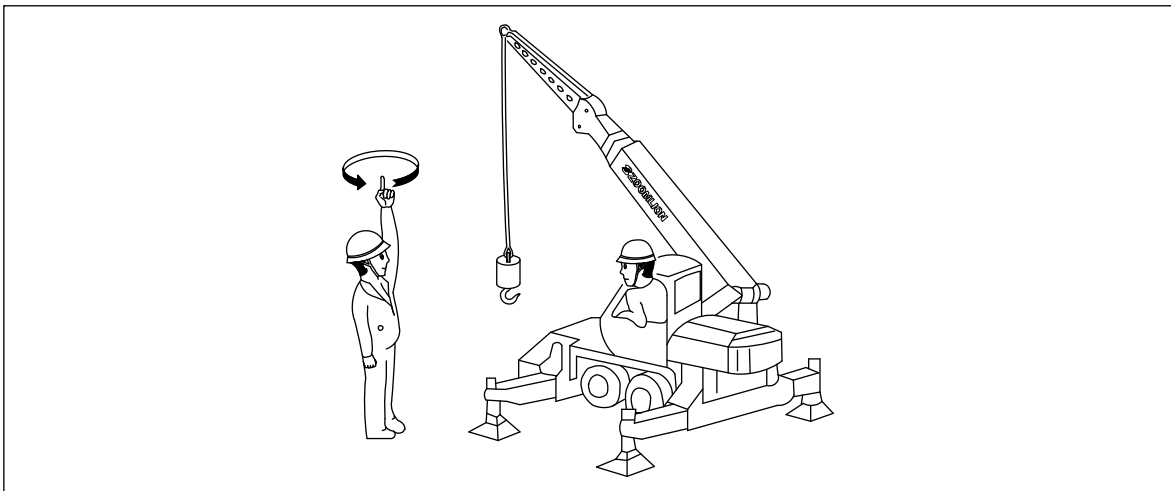

Figure 7-51 Hand Signal – Stow Position
- When you remove the auxiliary hook and put it in the stow position, obey the hand signals from the signal personnel. Refer to Figure 7-51.